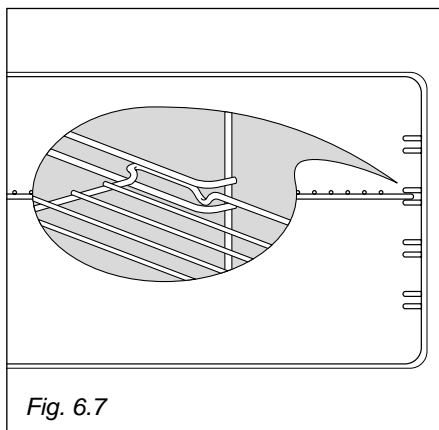

Fig. 6.7
- Slide in, on the guides, the shelves (fig. 6.7).
The rack must be fitted so that the safety catch, which stops it sliding out, faces the inside of the oven (fig. 6.7).